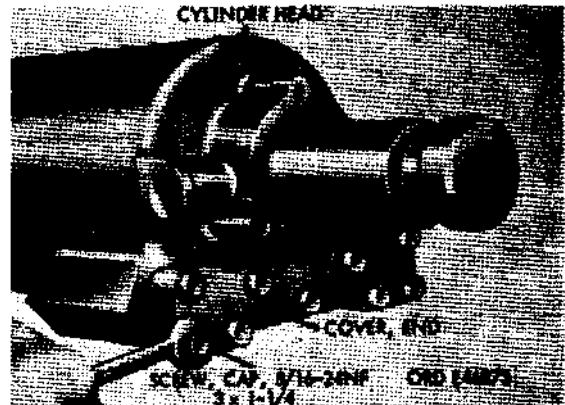

Figure 104. Removing end cover
(3) Remove nine cap screws and copper washers from end cover (fig. 104), and remove end cover and gasket. Discard gasket.
(4) Remove bypass plunger spring retaining plug from cylinder head (fig. 104). Then remove bypass plunger spring and ball from cylinder head.
- (d) Position end cover and new gasket on cylinder head and install nine cap screws (fig. 104) and copper washers, securing end cover to cylinder head.